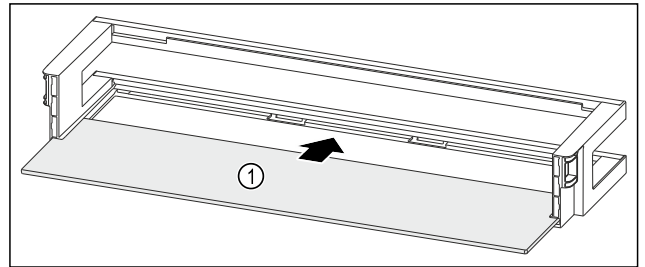

Fig. 119 Door rack with shelf
- ▶ Push the shelf Fig. 119 (1) into the side recesses.